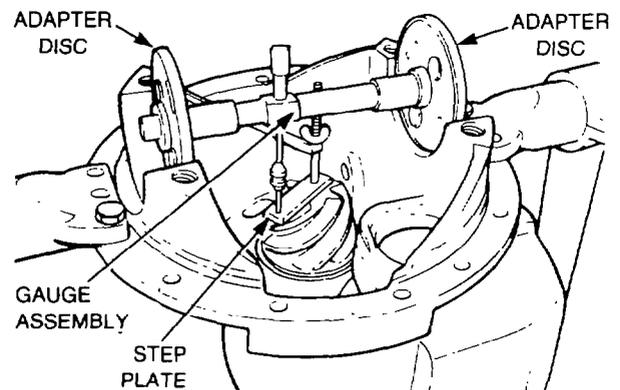

Figure 209 — Pinion Setting Tool
- l. Assemble the pinion setting gauge J4550 or equivalent and the step plate into the differential side carrier bearing pedestals, using the correct adapter discs (see Fig. 209).